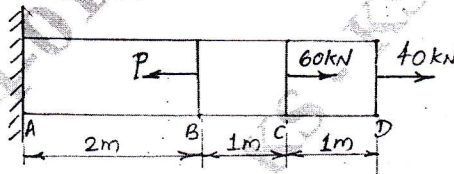

Fig.Q1(b)
- b. Determine the magnitude of the load P necessary to produce zero net change in the length of a straight bar shown in Fig.Q1(b). Area A = 400 mm².